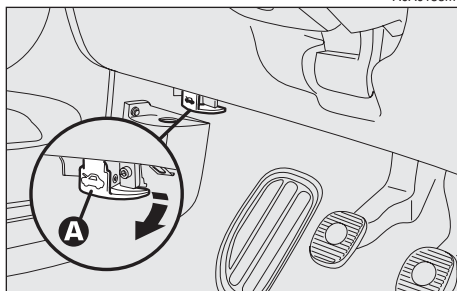

fig. 163
- pull the lever (**A-fig. 163**) until the bonnet clicks open.